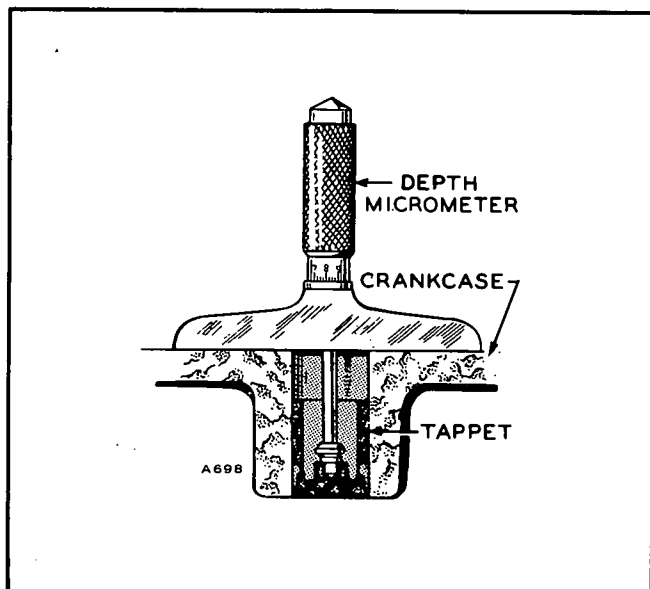

FIGURE 20. DEPTH MICROMETER
1. Install pump tappet in its recess and position flywheel on the port closing mark (PC) of the compression stroke.
2. Using a depth micrometer, measure the distance from the pump mounting pad on the crankcase to the tappet center. See Figure 20.